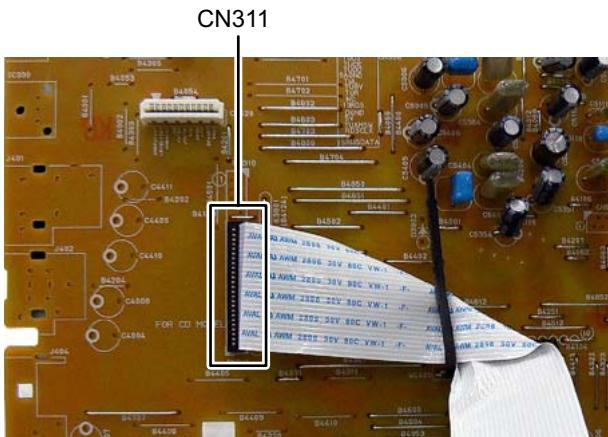

Fig.11
- (2) Disconnect the card wire from Connection board connected to connector CN311 of the Micom board. (See Fig.11)